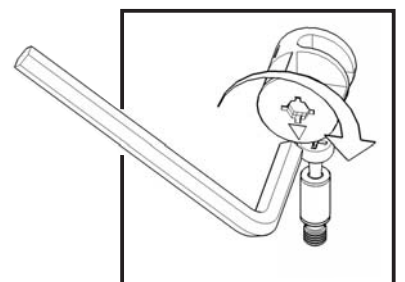

Figure 2
Attach Back Rail (M) to Side Panel (F) using a Cam Lock. Attach Back Post (J) to Back Rail (M). Slide Back Panels (I) to the unit. Attach Back Rail (M) to unit using a Cam Lock. Attach Front Rail (B) to unit using a Cam Lock. Attach Side Panel (E) to the unit using Cam Locks. (see Figure 2)